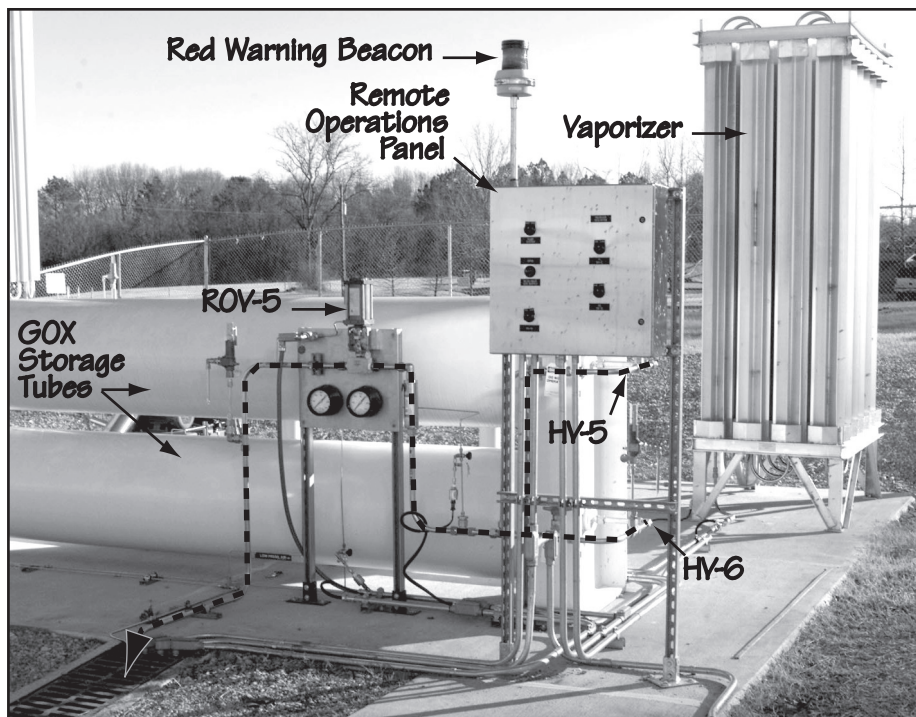

Figure 9-3.
9.1.5. Control Panels. Three panels (two in the fenced area and one inside Building 4623) provide access to and control of system operations: the LOX Pump Control Panel (Figures 4-2 and 9-5), the Remote Operations Panel (Figure 9-3), and the Oxygen Supply Master Control Panel (Figure 4-3).